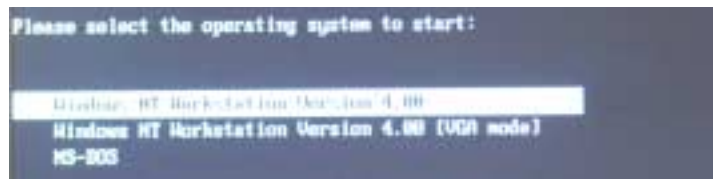

Figure 15-25 Windows Login Screen
15. Verify MDS boots to NT OS loader screen, as shown in Figure 15-25.